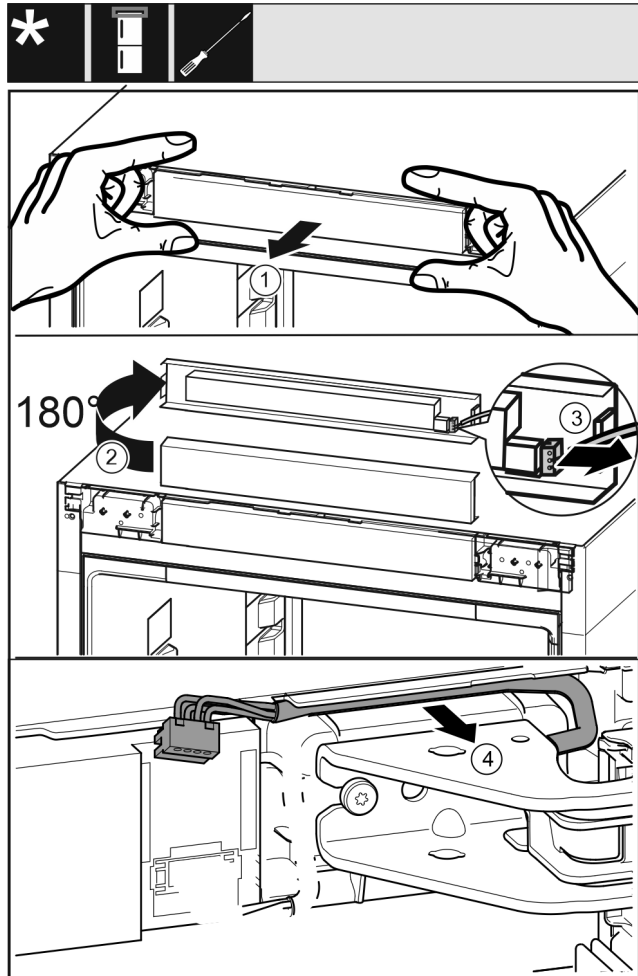

Fig. 10
- Carefully release the control panel trim Fig. 10 (1) forwards.
- Turn the control panel trim Fig. 10 (2) upwards by 180°.
- Push the locking tab Fig. 10 (3) backwards and remove the plug carefully.
- Release the cable over the swap bearing block Fig. 10 (4) from the guide carefully.